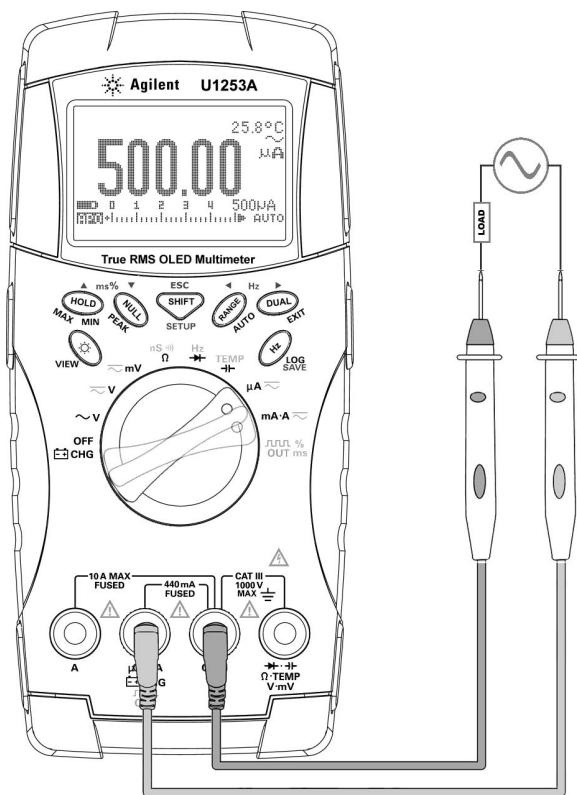

Figure 2-3 Measuring μ A and mA current
- 3 Connect the red and black test leads to input terminals $\mu\text{A.mA}$ (red) and **COM** (black) respectively (refer to Figure 2-3 on page 34).
- 2 Connect the probes as shown in Figure 2-3 on page 34.